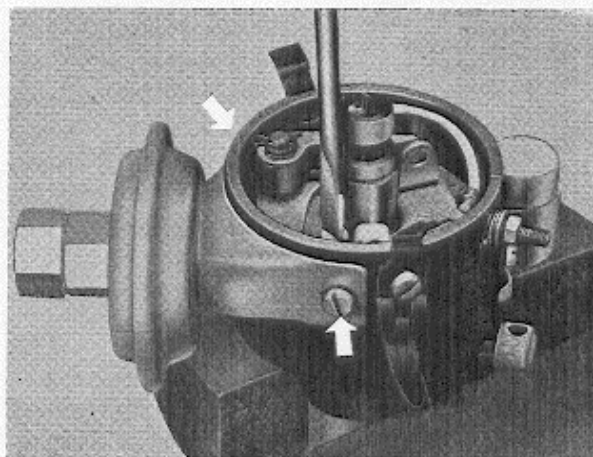

Fig. 57. Removing the vacuum regulator. VOLVO 24871
2. Disconnect the vacuum regulator by unscrewing the screws as shown in Fig. 57 and then lifting it off.